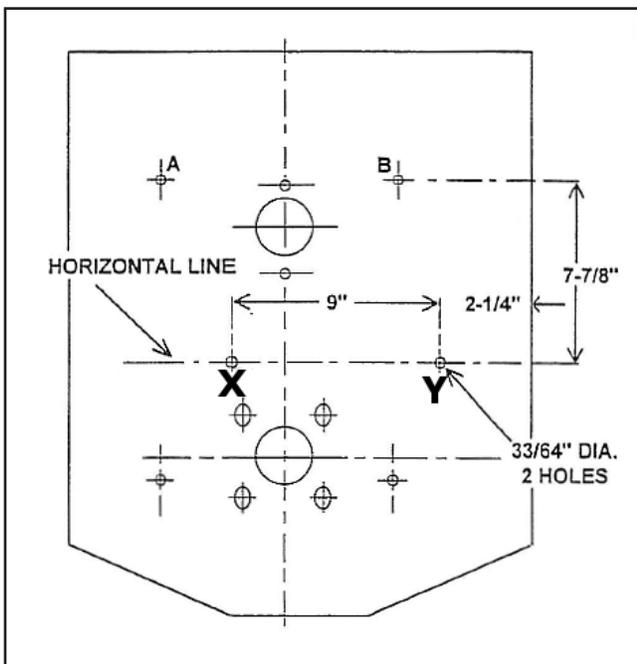

Figure 1
1. Knock steel plugs out of holes X and Y (Figure 1), using a punch and a hammer.